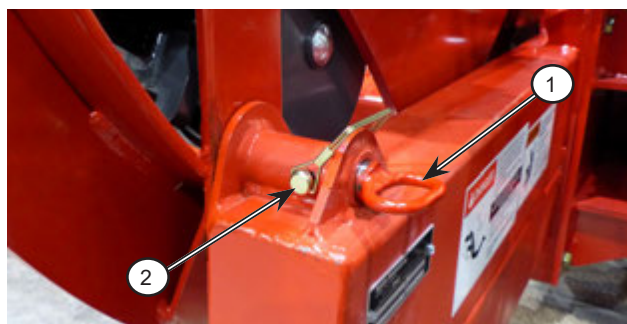

Figure 4.8: Install the apron lock
3. Install the apron locks on the left and right side of the apron; see *Figure 4.8*.
- a. Insert the 1" apron pins (1) into the hole on the apron.
- b. Re-install the  $\frac{5}{16}$ " locking pins (2) into the 2nd hole on the apron pins.